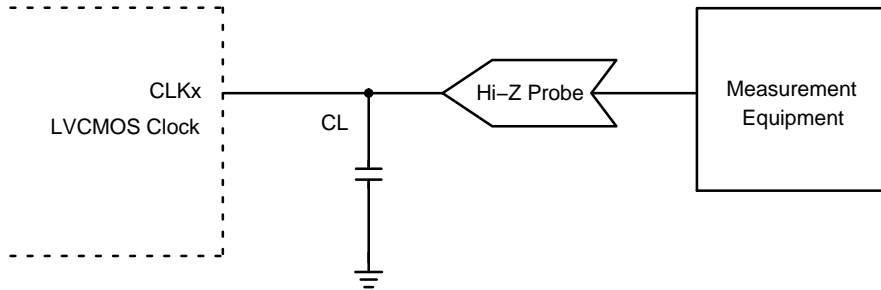

Figure 5. LVC MOS Parameter Measurement
4. Measurement taken with single ended clock outputs terminated with test load capacitance of 5 pF and 15 pF. See Figure 5. Specification for LVTTTL are valid for the $V_{DD} 3.3V$ only.
6. Measurement taken with single ended clock outputs terminated with test load capacitance of 5 pF and 15 pF. See Figure 5. Specification for LVTTTL are valid for the $V_{DD} 3.3 \text{ V}$ only.